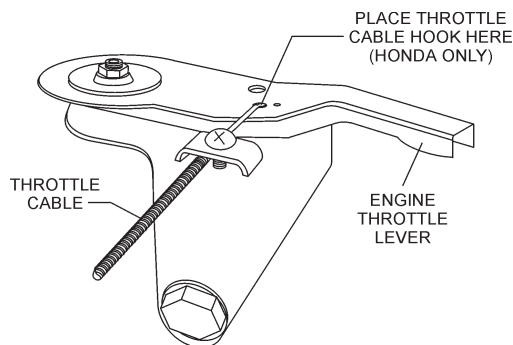

Figure 12. Throttle Cable Connection (HONDA)
3. Connect the throttle cable **hook-on** wire to the **HONDA** engine throttle lever as shown in Figure 12.